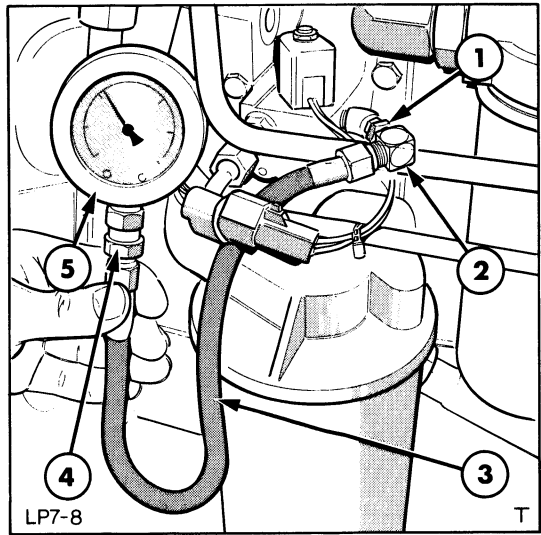

Figure 8
3. Using adaptor FT 8613, a 7/16 in JIC male/female elbow (Ford Part No 86246-S36 Finis code 3926127 or equivalent proprietary item), hose (Ford Part No E1NN F493 AA Finis code 3936707) and adapter FT8503-8 connect the low pressure test gauge FT8616 into the system, Figure 8.